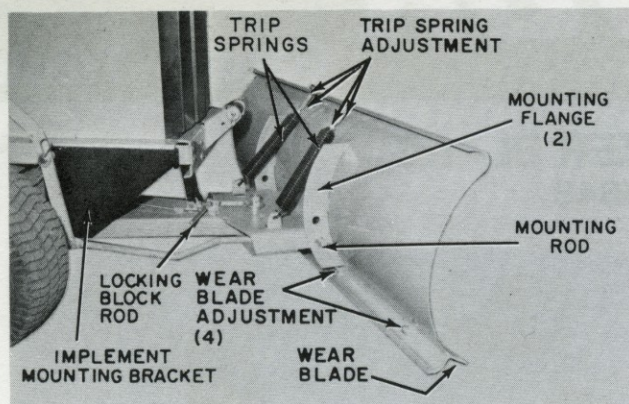
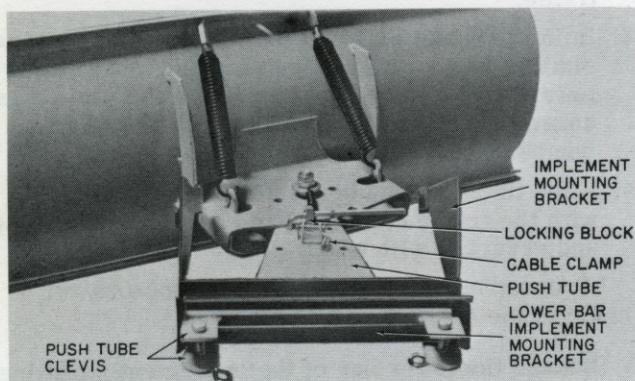

Figure 2
Figure 3
1. Engage the lower bar of the implement mounting bracket with the open end of each clevis on the blade push tube. Secure with L-shaped clevis pins and hair pin cotters. See Fig. 3. Note in Fig. 2 that the mounting rod fits in the lower holes of the blade mounting flanges.
4. While holding the locking block rod to the rear, place the wire portion of the cable in the slot of the cable clamp and slowly release the locking block rod until the sheath of the cable engages the cable clamp. See Fig. 2 and 3.
Trip Springs – For normal adjustment of the trip springs, allow 3 1/2 in. between each spring and the top of its adjusting bolt as shown in Figure 2. This spacing may be varied to accommodate differing plow conditions. For example, if it is necessary to plow snow from a flagstone patio or walk, the trip springs should be set lightly (maximum spacing) to prevent dislodging the flagstones. Conversely, a minimum spacing would prevent the blade from tripping easily during earthmoving. The trip spring tension (and spacing) may be adjusted by holding the head of the spring retaining bolt and rotating the hexagon barrel so as to draw the spring up or allow it to relax. Adjust both springs equally.